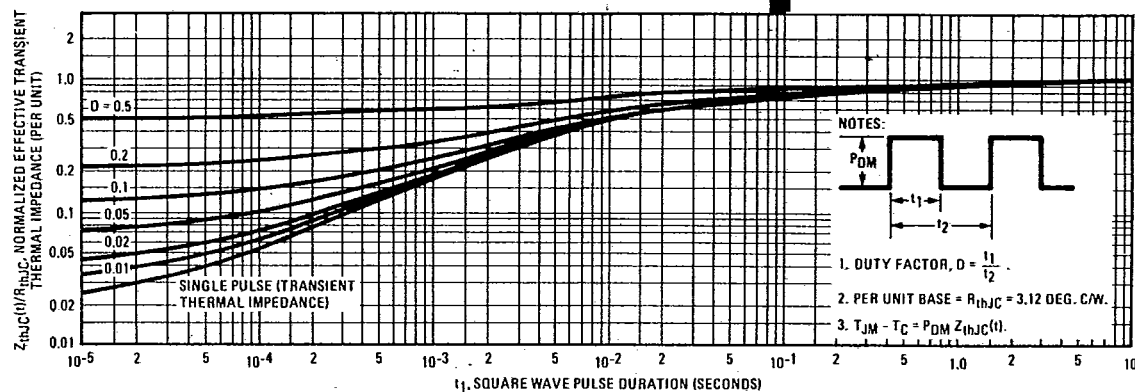

Fig. 5 - Maximum Effective Transient Thermal Impedance, Junction-to-Case Vs. Pulse Duration
① $T_J = 25^\circ\text{C}$ to 150°C .
② Pulse Test: Pulse width $< 300\mu\text{s}$, Duty Cycle $< 2\%$.
③ Repetitive Rating: Pulse width limited by max. junction temperature. See Transient Thermal Impedance Curve (Fig. 5).
④ $K/W = ^\circ\text{C}/W$